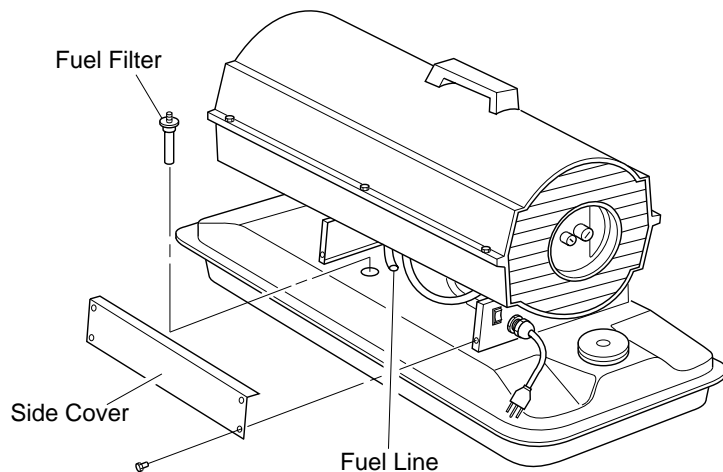

Figure 9 - Fuel Filter Removal, B35CEH and B70CEH Models
3. Remove 4 side cover screws with a 5/16" nut driver. Remove side cover (see Figure 9 or 10, page 8).
12. Replace side cover (see Figure 9 or 10, page 8).